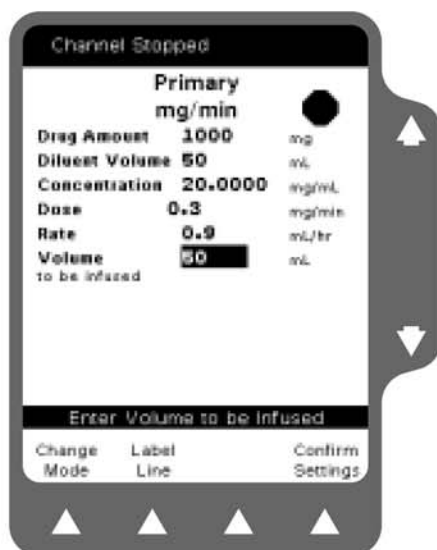

Figure 5-14 Confirm Settings
13. Verify that the displayed values are appropriate and press the **Confirm Settings** soft key (Figure 5-14).